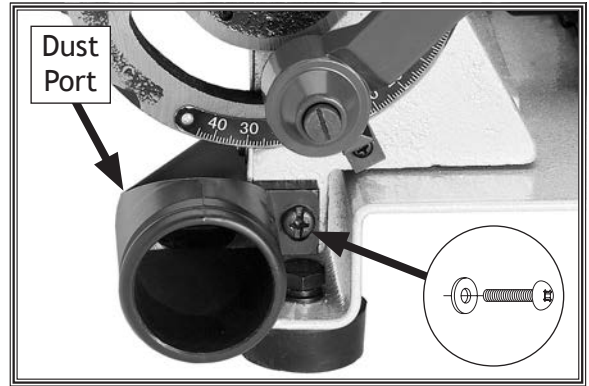

Figure 18. Disc dust port installed.
- Secure disc sander dust port, as shown in **Figure 18**, with (1) M6-1 x 12 Phillips head screw and 6mm flat washer.